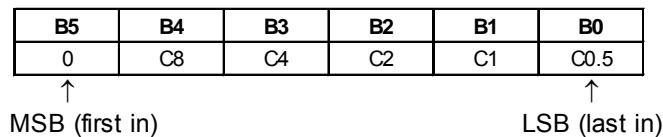

Figure 19. Parallel Interface Timing Diagram
The parallel interface timing requirements are defined by *Figure 19* (Parallel Interface Timing Diagram), *Table 9* (Parallel Interface AC Characteristics), and switching speed (*Table 1*).
For *latched* parallel programming, the Latch Enable (LE) should be held LOW while changing attenuation state control values, then pulse LE HIGH to LOW (per *Figure 19*) to latch new attenuation state into device.